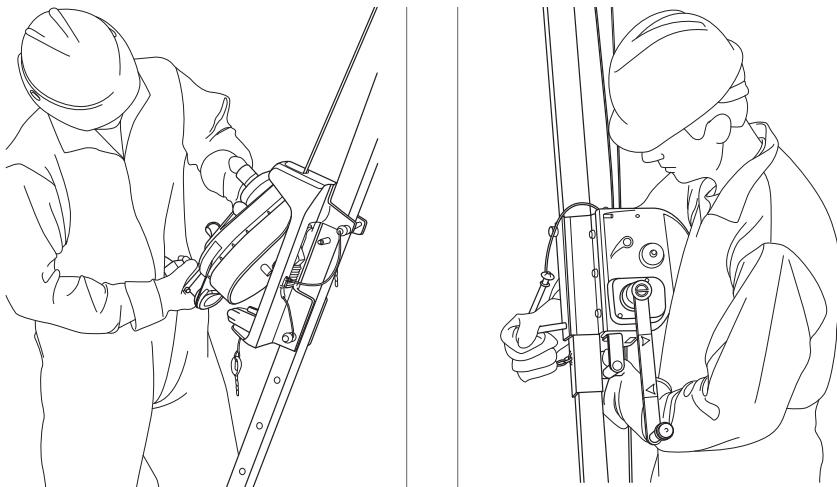

Fig. 8 Installation of Anchorage Hook at Tripod Head
To install the MSA Winch, follow the instructions below and refer to Fig. 8 .
- (1) In accordance with the tripod instructions, raise the tripod only to a height where the tripod head is easily reachable by the installer.
- (2) Lay the winch on the ground to the right side (when facing the leg) of any leg and extract approximately 9 ft (2.7 m) of line (D).
- (3) Reeve the cable over the split-mount pulley and, using carabiner, PN 10089207, mount the pulley to the tripod head to the RIGHT of the leg to which the winch is to be mounted.
- (4) If using a leg-mounted fall arrester, such as the MSA Rescuer, lay the fall arrester to the right of any other tripod leg and extract enough line to reeve the cable over a split-mount pulley and attach to the tripod head to the right of the leg to which the fall arrester is to be mounted.
- (5) Raise the tripod to the desired working height.
- (6) Insert the winch positive locking pin (H) partially through the tripod leg to which the winch is to be mounted, starting from the left side of the outside face of the leg. See Fig. 8 .
- (7) Mount the winch on the tripod leg placing the slot (I) in the winch mounting bracket over the pin (H) from the previous step.